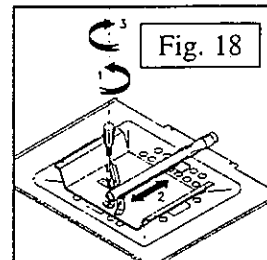

Fig. 18
- Loosen the screw which holds the burner in place, and remove the burner completely (See Figure 18)